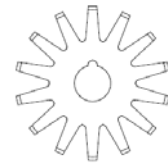

Fig. 6.2.1
- The “tenderising” system is made up of star-shaped blades (Fig. 6.2.1) that penetrate the meat and cut the nerves so as to make it more tender.